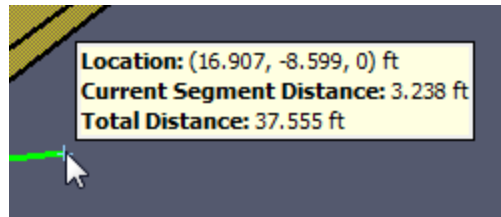

Figure 102. Information displayed by the measure tool
2. Either click several points to measure the total distance along a path or click-drag to measure a single distance between two points. As the cursor is moved, the current cursor location, total path length, and length of the most recent segment are displayed as shown in Figure 102.